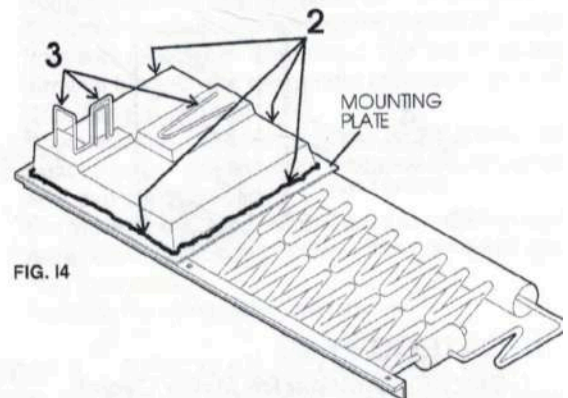

FIG. 14
2. Apply sealing permagum on mounting plate on all four sides (FIG. 14).
3. Apply thermal mastic on the evaporator tubes in food compartment and freeze compartment (FIG. 14).